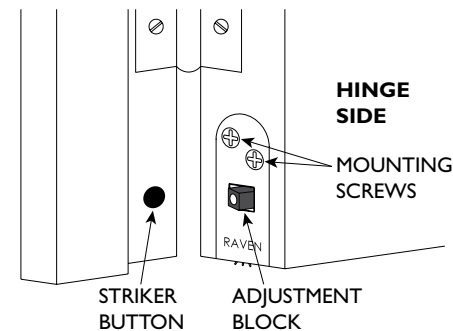

FIG.3
STEP 12 The seal is factory set to seal a door bottom that is parallel with the floor (excludes 600mm unit length). To adjust, screw **level adjustment screw** with a Phillips head screwdriver. **(FIG.3)** **Note:** Adjustment is very sensitive. Screw clockwise to bias seal on **latch side**. Screw anti-clockwise to bias seal on **hinge side**.